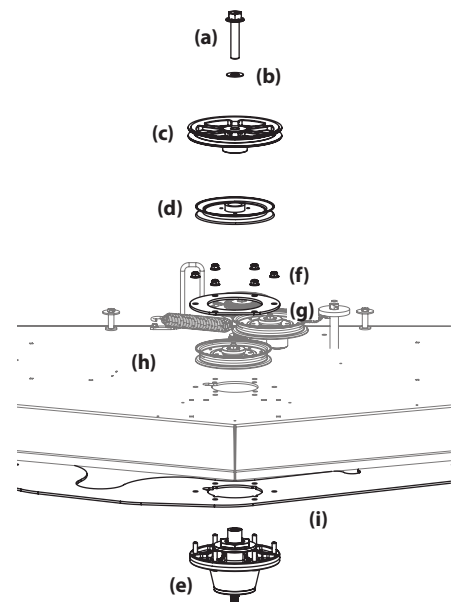

Figure 4-26
8. Remove the hex flange bolt (a) and flat washer (b) securing the drive pulley (c) and center spindle pulley (d) to the spindle assembly (e). See Figure 4-26.
9. Remove the six (6) flange lock nuts (f) securing the center (d) spindle assembly (e) and the support plates (g) to the deck shell (h). See Figure 4-26.